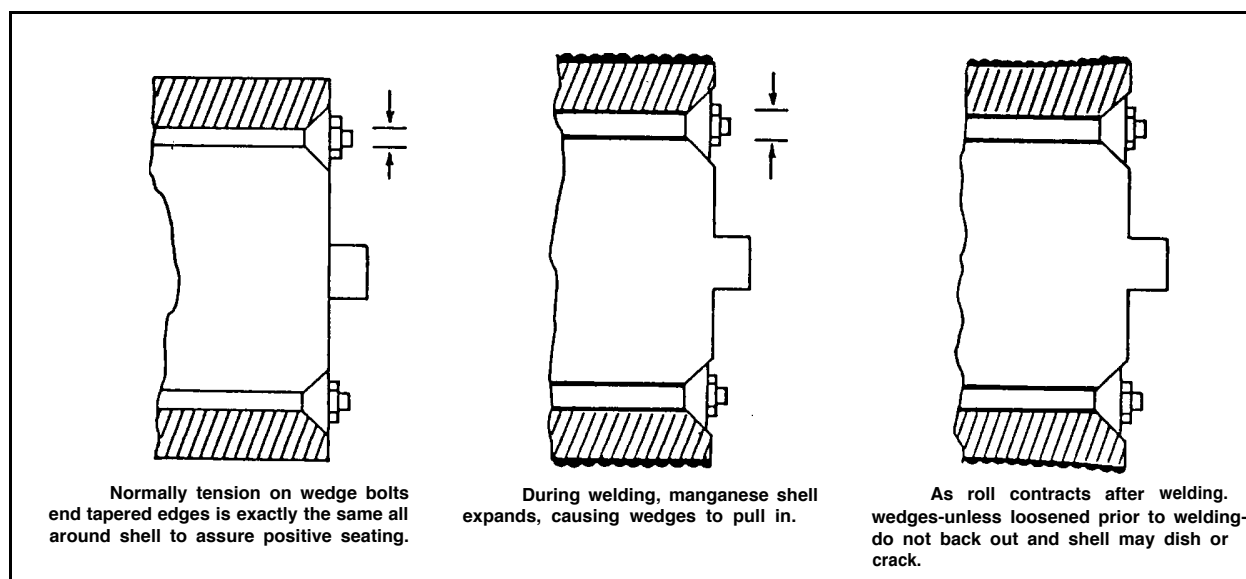

FIGURE 2-63. Preventing Warpage of Crusher Roll Shells
4. Where extensive welding is planned on one-piece shells, wedge bolts should be loosened before welding begins and retightened after the roll shell has cooled. This allows for expansion and contraction of the shell and reduces the possibility of cracking, breaking, or warping (Figure 2-63).